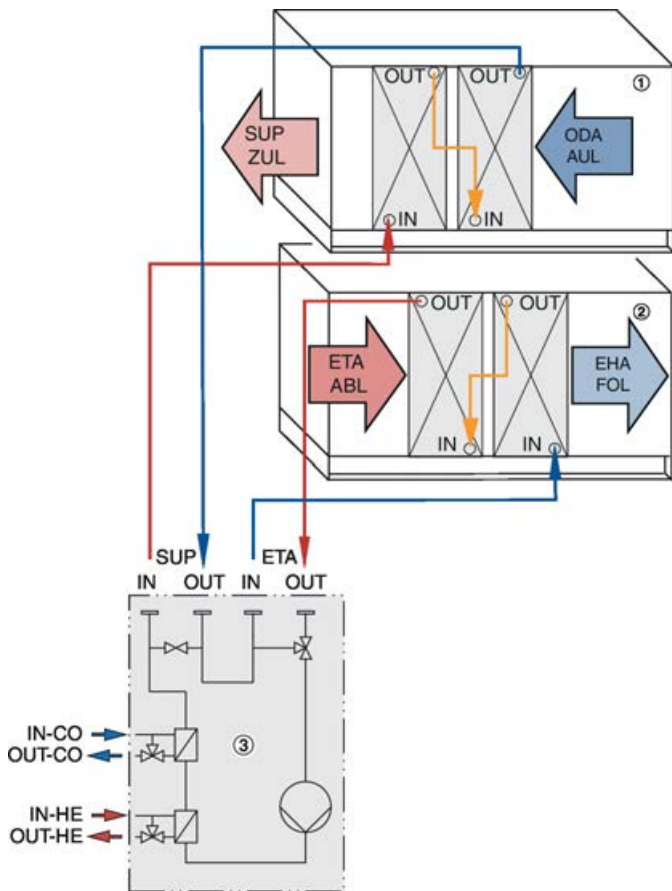

Fig. 38: Hydraulic system connection (example)
- ① Supply air unit
- ② Extract air unit
- ③ hydraulic unit
3. ▶ Connect the heat exchanger with the hydraulic unit (Fig. 38).
4. ▶ Run-around coil systems with external feeding: Make the required connections (Fig. 38).